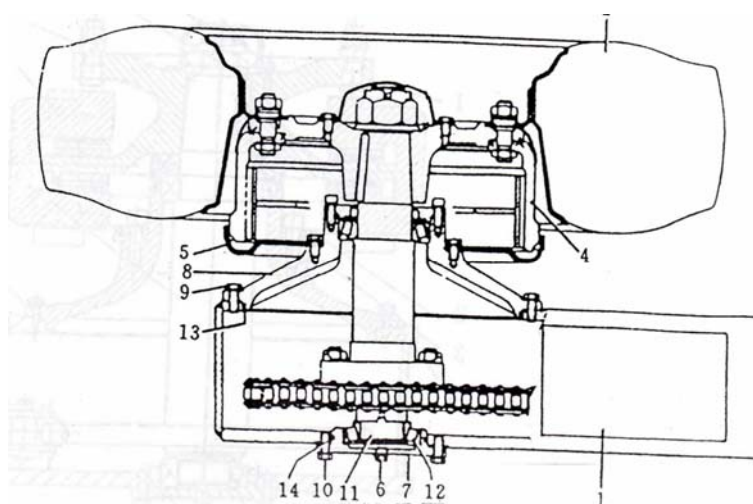

Fig. 53
8.7 Adjustment of the chain of tandem box (Fig. 53)